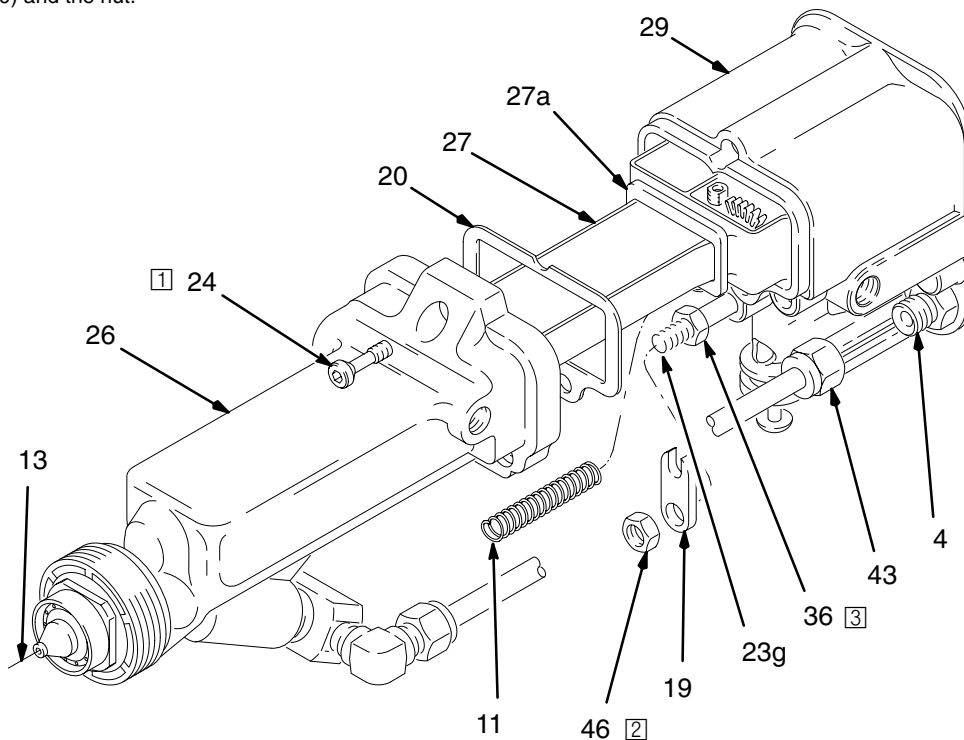

Fig. 32
1. Be sure the gaskets (20, 27a) and spring (11) are in place. See Fig. 32. Replace the parts if they are damaged.
2. Place the barrel (26) over the power supply (27) and onto the gun body (29). Make sure the fluid needle spring (11) is seated properly.
3. Using the ball end wrench (77—*not shown*), tighten the three screws (24) oppositely and evenly to 18 in-lbs (2 N•m) maximum (about a half turn past snug); do not over-tighten.
- 1 Tighten the screws (24) to 18 in-lbs (2 N•m) maximum (about half turn past snug), using the wrench (77) provided.
- 2 Install the nut (46) flush to the end of the piston rod (23g).
- 3 Adjust the nut (36) to create 0.125 in. (3 mm) gap between the actuator arm (19) and the nut.